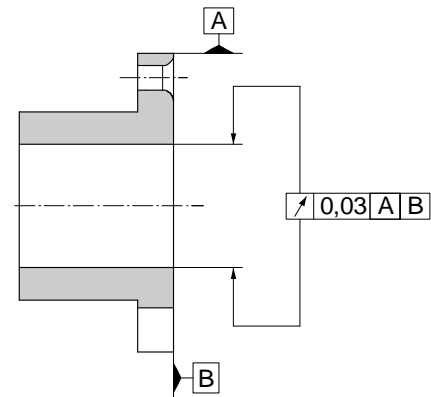

Fig. 2
- ❑ The recommended bore tolerances are to be produced according to position and tolerance width. At the same time, please keep to the permitted shaft run-out and axial run-out tolerances of 0,03 mm (Fig. 2).